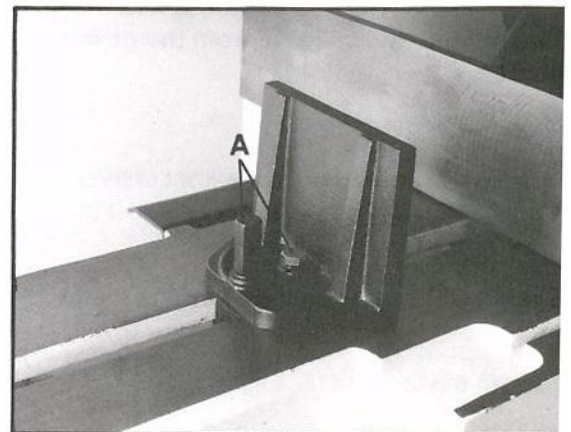

Fig. 16
1. Loosen bolts (A, Fig. 16 ) and move vise jaw to desired angle.